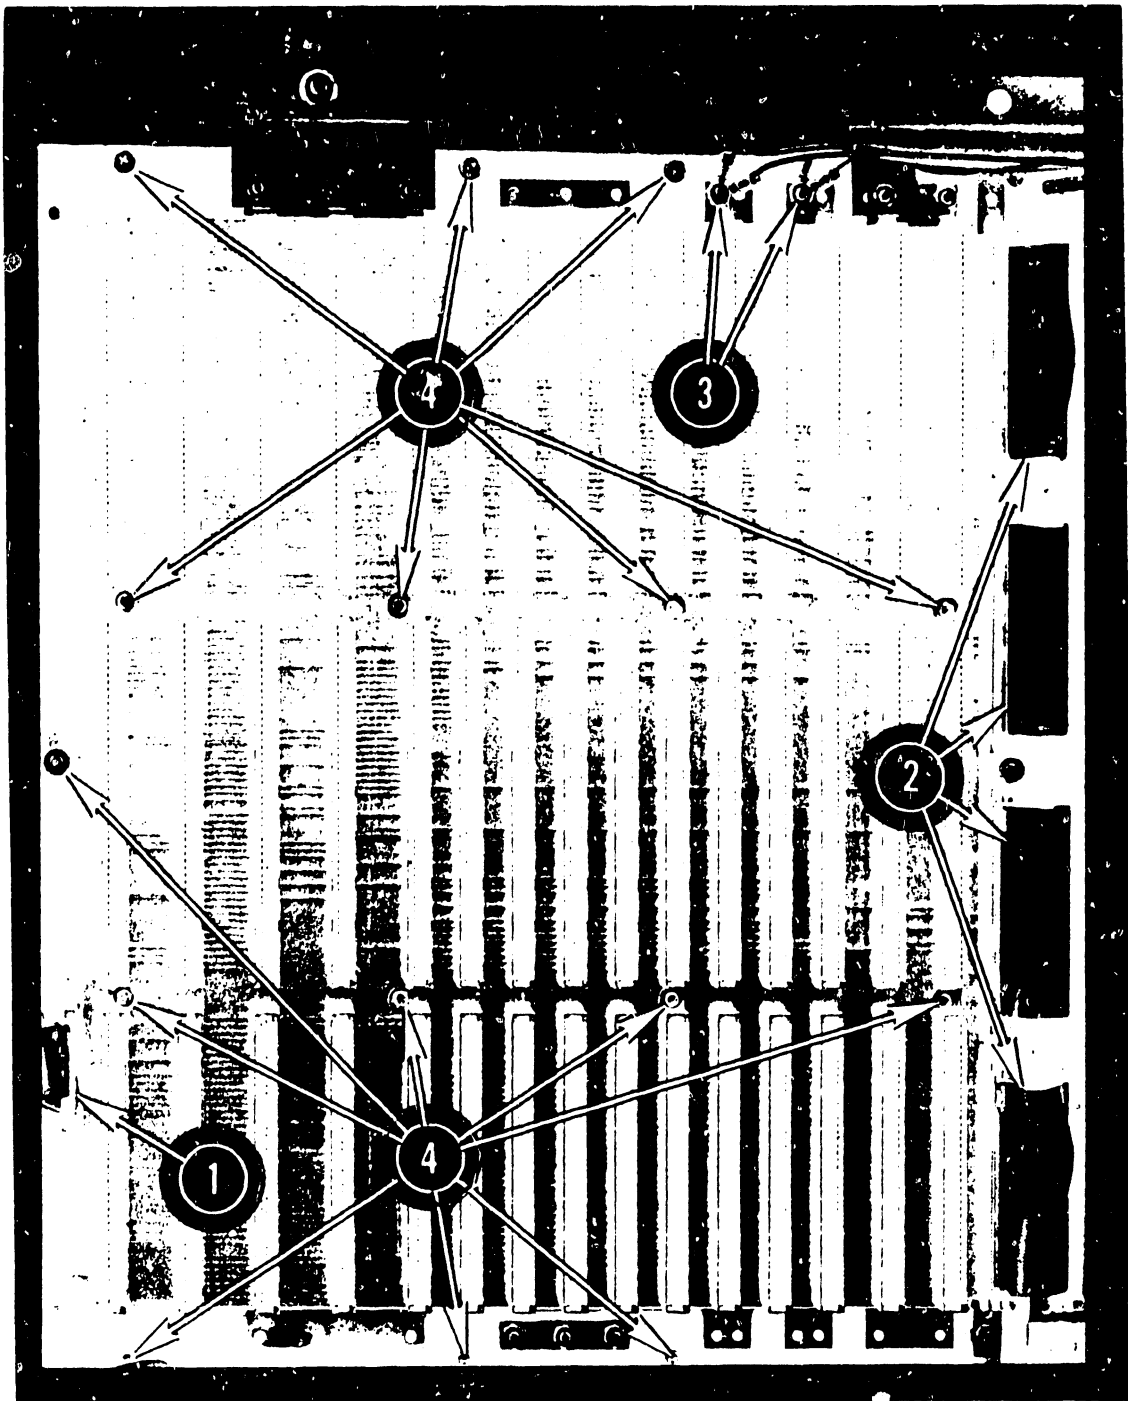

FIGURE 7-6 CP MOTHERBOARD REMOVAL
Remove the 210-7608 CPU Motherboard as follows: (See Figure 7-6.)
5. Once all cards are removed, remove the cables attached to motherboard connectors J1 and J47 through J50. (Callouts 1 and 2 on Figure 7-6.)
8. Remove all (8) Phillips-head screws located on the outer edges of the motherboard and the Phillips-head screws located between the card slots on the motherboard (Callout 4)